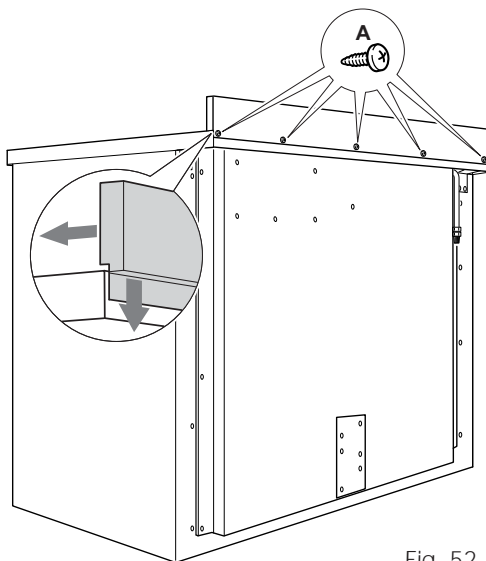

Fig. 52
- Assemble the backguard as shown in figure 52 and fix it by the 5 screws **A**.